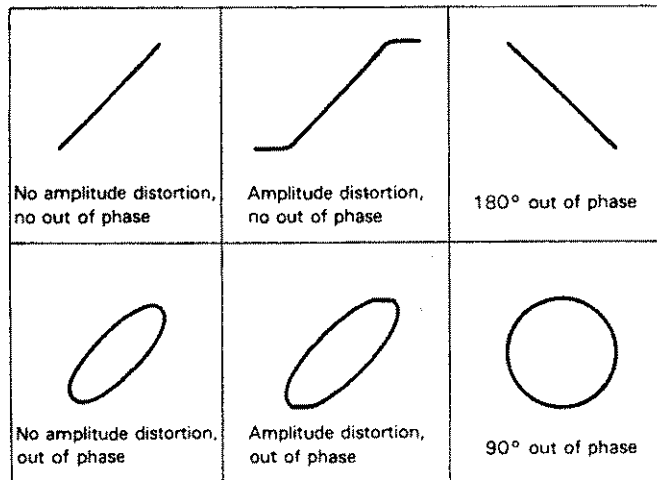

Fig. 19. Typical X-Y Phase Measurement Displays.
### Phase Measurements (refer to Fig. 19.)
5. If necessary, repeat step 3, readjusting the channel 1 and 2 gain controls for a suitable viewing size. Some typical results are shown in Fig. 19.